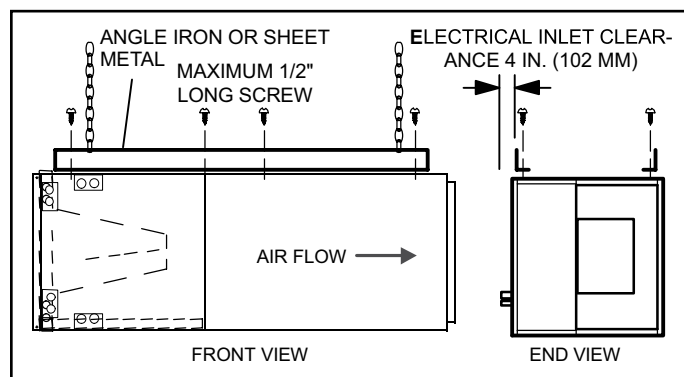

Figure 3. Suspending Horizontal Unit
5. If the unit is suspended, the entire length of the cabinet must be supported. If you use a chain or strap, use a piece of angle iron or sheet metal attached to the unit (either above or below) to support the length of the cabinet. Use securing screws no longer than 1/2 inch to avoid damaging the coil or filter. See Figure 3. Use sheet metal screws to connect the return and supply air plenums as required.
13. If suspending the unit, it must be supported along the entire length of the cabinet. If using chain or strap, use a piece of angle iron or sheet metal attached to the unit (either above or below) so that the full length of the cabinet is supported. Use securing screws no longer than 1/2" to avoid damage to coil or filter, as illustrated in Figure 3. Connect return and supply air plenums as required using sheet metal screws.